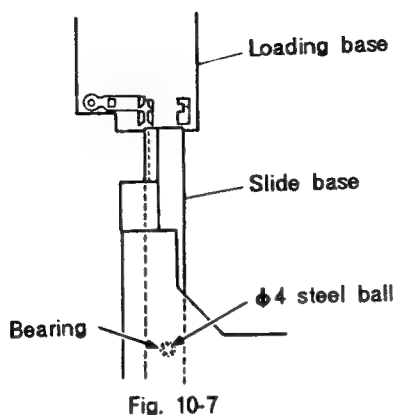
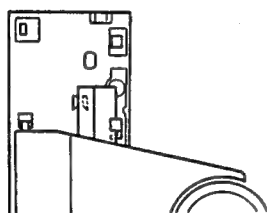

Fig. 10-7
Fig. 10-8
<p>Re-mount the disc tray according to the following procedure when the grating adjustment is complete.</p> <ol style="list-style-type: none"> 1. Remove the disc and the spacer. 2. While lifting the clamp holder [marked ③ in Fig. 10-2] with the right hand, hold the tray in the left hand as indicated by ④ and slide the slide base into the hard resin fittings on the loading base as shown in Fig. 10-7 to re-insert the disc tray. At this time, be sure to hold the steel ball in place with the index finger of the left hand. Also, be careful that the front panel is not damaged by the slide base and bearing of the steel ball's bearing (in the slide base) coming into contact with the panel. 3. Insert the slide base so that it fits into the two hard resin fittings at the rear of the loading base (see Fig. 10-8). 4. Insert the tray all the way.